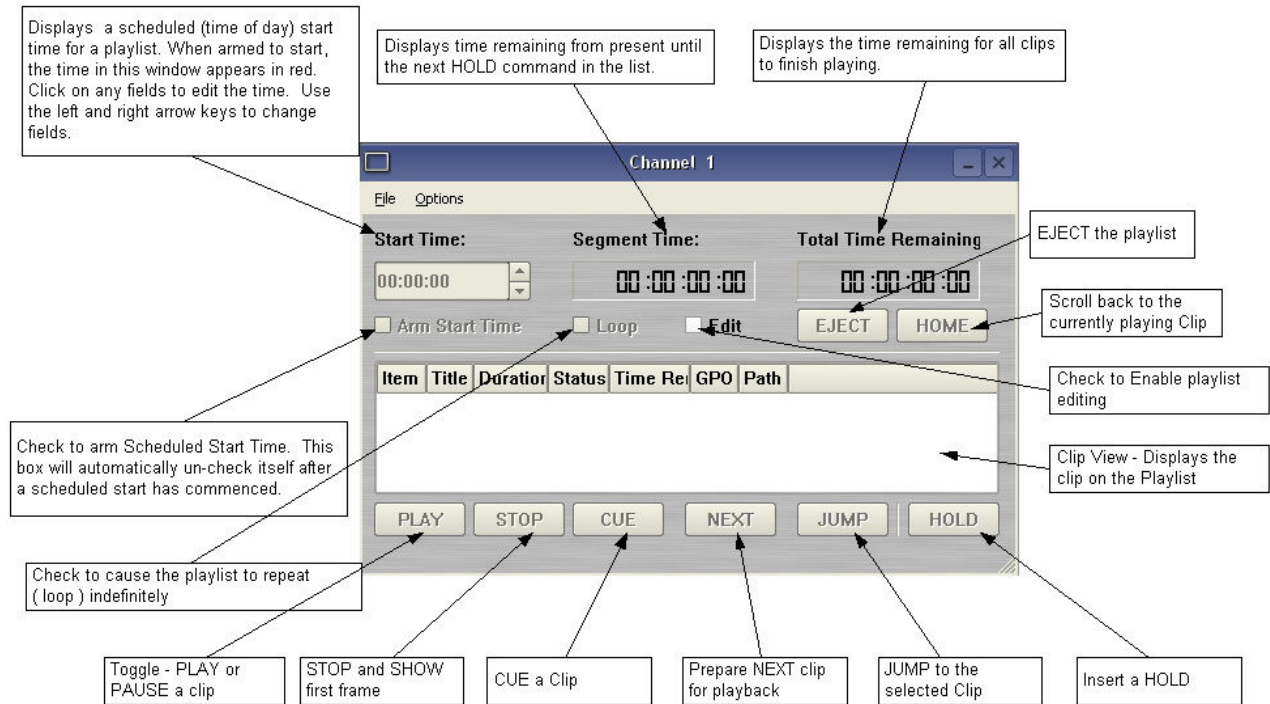

Figure 24 - Channel 1 Playlist View
The Playlist View for channel 1 is shown in Figure 24. It's functions are briefly described here. Table 1 provides an overview of Playlist control functions and their associated hot-keys.
- A. Change the transport for Channel 1 to the **Playlist View**. Click **FILE->PLAYLIST** in the Channel 1 transport pulldown menu. The window of Figure 24 appears.
Set a start time for a Playlist by entering a twenty four hour time of day in Hours, Minutes And Seconds in the **START TIME** field (see Figure 24). Click on any field to edit the field. Check the **ARM START TIME** checkbox to arm the start time. The **ARM START TIME** checkbox will automatically uncheck itself once the playlist has started.